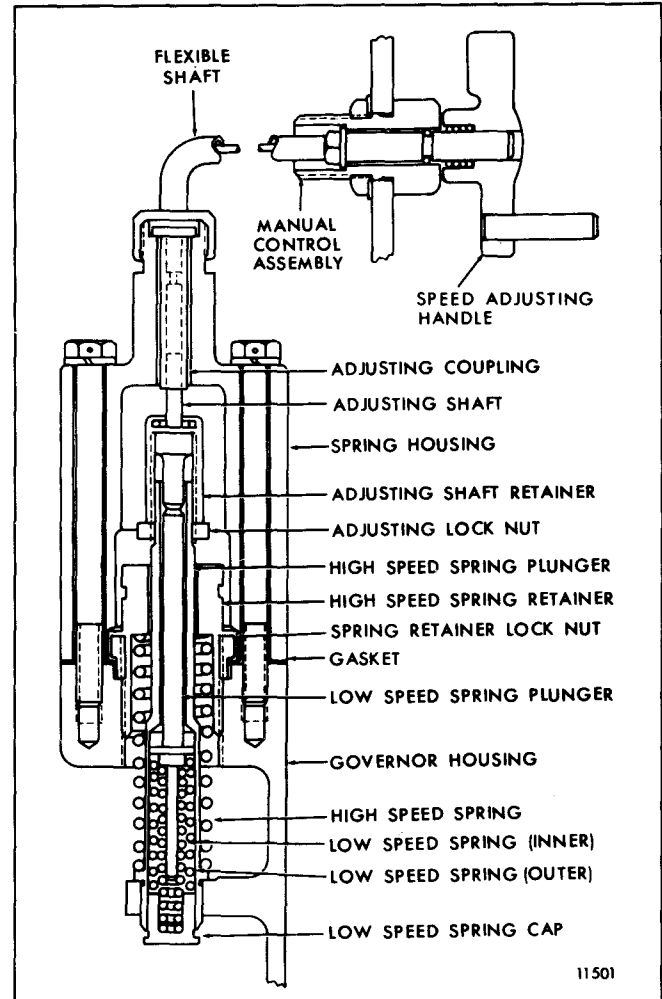
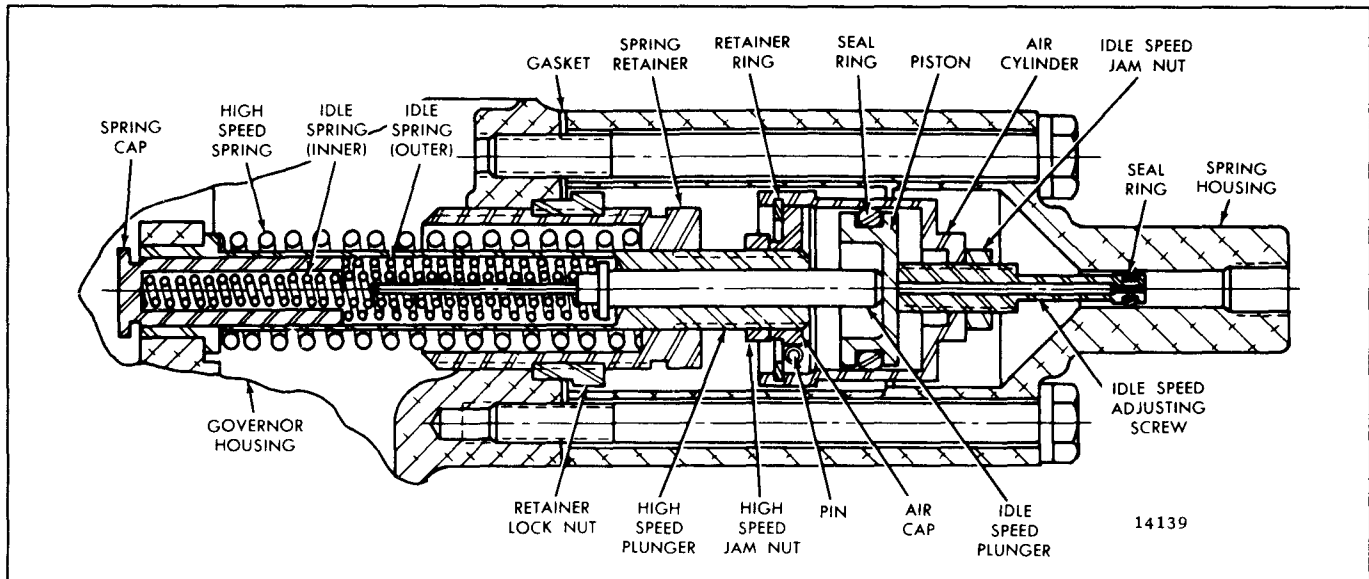

Fig. 1 – Cable Operated Governor Spring Housing and Components
Fig. 2 - Air Operated Governor Spring Housing and Components
During highway operation, the governor functions as a limiting speed governor, controlling the engine idling speed and limiting the maximum operating speed. At the unloading area, the throttle is left in the idle speed position and the speed adjusting handle, on the cable operated governor (Fig. 1), is turned to the speed required within the above range to operate the auxiliary equipment. For the air operated governor (Fig. 2), the engine speed is changed to the speed required by increasing or decreasing the air supply pressure to the governor. The governor, then functions as a variable speed governor, maintaining a constant speed when the load is constantly changing, during the unloading operation. Before resuming highway operations, the speed adjusting handle on the cable operated governor must be turned back to the stop, then turned ahead about one-quarter of a turn. The air operated governor's air supply pressure must be vented before resuming highway operations.
3. For *Cable Operated Governors* make a preliminary idle speed (normal highway idle speed) adjustment as follows (Fig. 1):
4. For *Air Operated Governors* make a preliminary idle speed (normal highway idle speed) adjustment as follows (Figure 2):